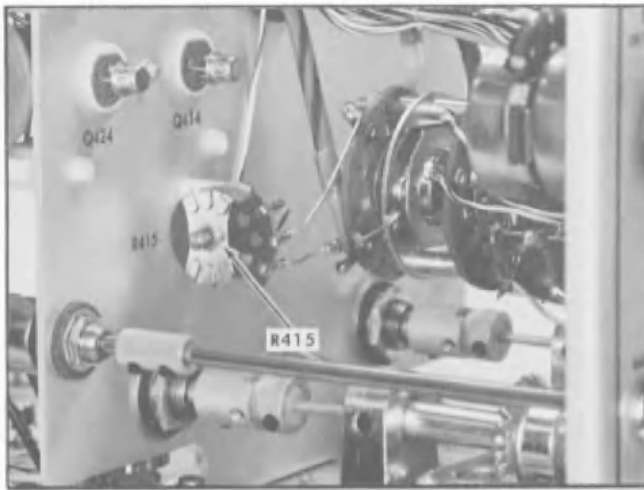

Fig. 7-4. Location of R415.
- Adjust—R415 for minimum trace shift as the TRIGGER SELECTOR switch is changed back and forth between CH 1 and CH 2. See Fig. 7-4 for location.